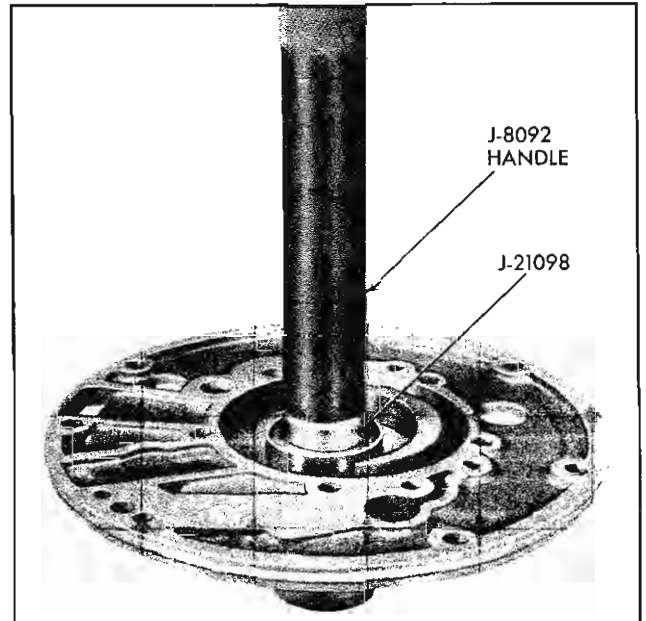

Fig. 7A-51 Installing Pump Body Bushing
3. Check end clearance of planet pinions. This clearance should be .006"-.030". (Fig. 7A-53).